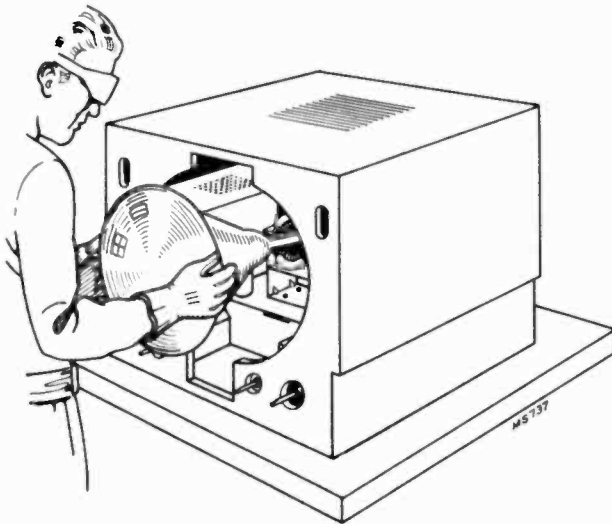

Figure 4—Kinescope Insertion
**KINESCOPE INSTALLATION.**—Slip the Vinylite boot over the metal cone of the kinescope, turn the tube so that the key on the base of the tube will be down and insert the neck of the kinescope through the deflection and focus coils as shown in Figure 4. If the tube sticks, or fails to slip into place smoothly, investigate and remove the cause of the trouble. Do not force the tube.